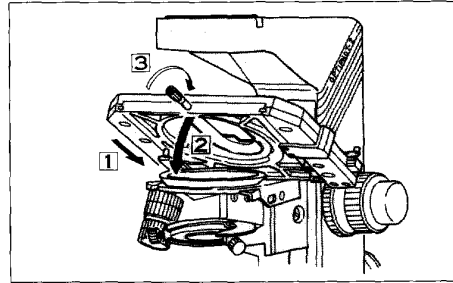

Fig. 2-12
⑦ Mounting the Stage
- Insert the stage into the circular dovetail of the stage mount of the substage, ① and ②. Fasten the stage with the stage clamp screw ③ (Fig. 2-12).